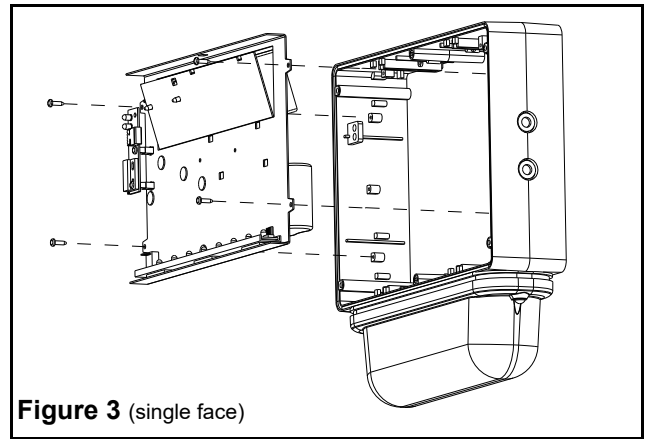

Figure 3 (single face)
- g. In order to access the knockouts of the frame, remove the 4 electronic module screws holding the module to the frame (see fig. 3 & 4), disconnect the lamps from charger board terminal "L+ & L-" (see on fig. 11) and remove the electronic module.
- c. Remove the 4 electronic module screw(s) holding the electronic module to the frame (see fig. 3 & 4), disconnect the lamps from terminal block and remove the electronic module.